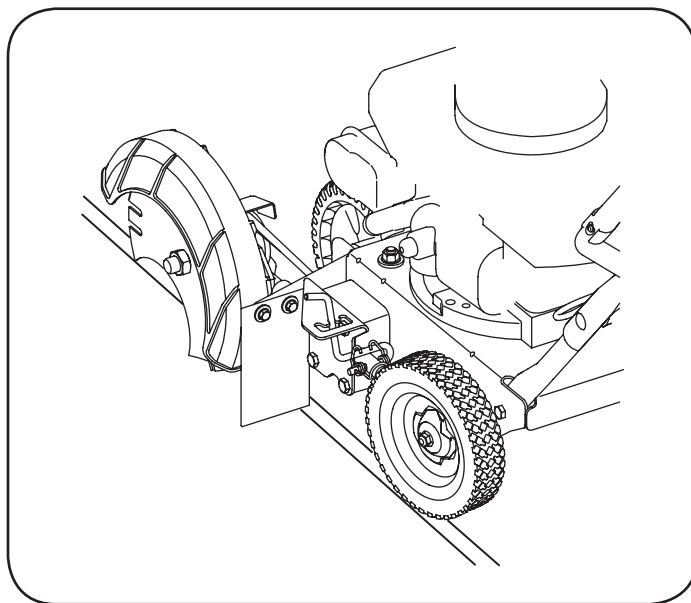

Figure 9
1. Move edger to an area to be edged, making sure that the left rear wheel is on a hard surface and the blade is over the area to be cut. See Figure 9.